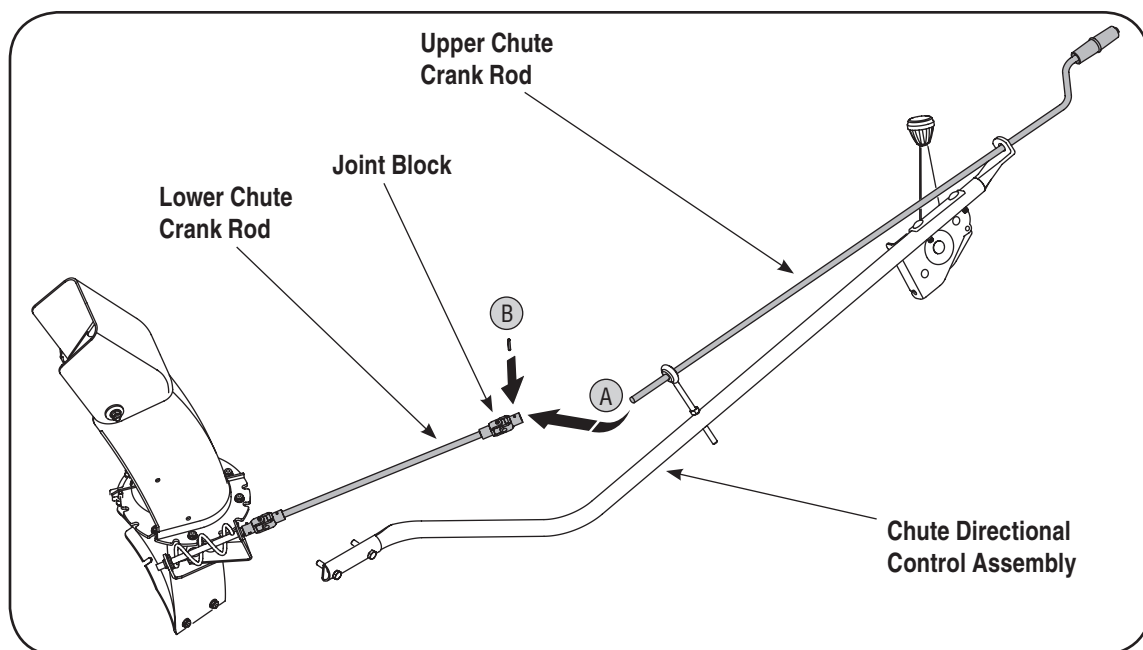

Figure 24
1. Secure the upper chute crank rod to the joint block (A) on the lower chute crank rod with the cotter pin (B) provided. See Figure 24.